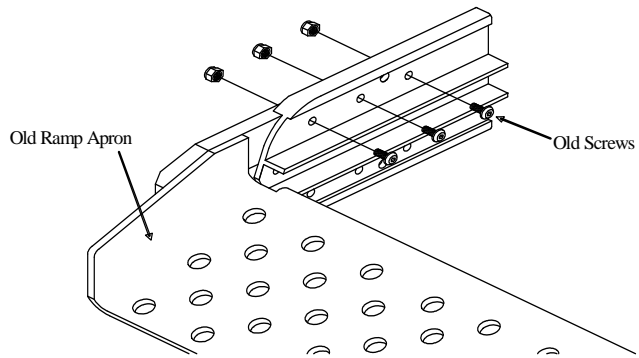

FIG. 1
- a. Using the 7/16" wrench and socket, remove the six screws holding the apron to the ramp rails as shown in Fig. 1. **Note:** Some older ramps may have button head screws holding on the apron. A 5/32" Allen wrench can be used to remove these screws. Discard these parts to avoid confusing them with the new apron hardware.